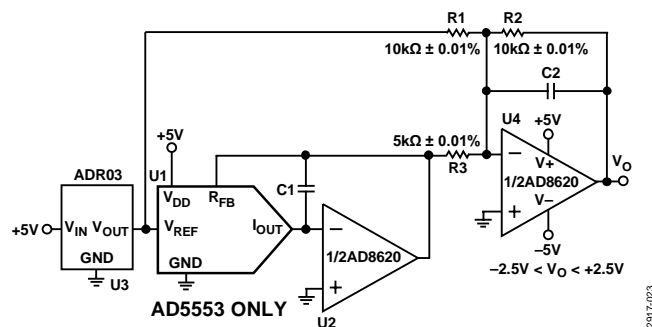

Figure 22. 4-Quadrant Multiplying Application Circuit
In some applications, it may be necessary to generate the full 4-quadrant multiplying capability or a bipolar output swing, which is easily accomplished by using an additional $U4$ external amplifier configured as a summing amplifier (see Figure 22). In this circuit, the second amplifier, $U4$, provides a gain of 2 that increases the output span magnitude to 5 V. Biasing the external amplifier with a 2.5 V offset from the reference voltage results in a full 4-quadrant multiplying circuit. The transfer equation of this circuit shows that both negative and positive output voltages are created as the input data (D) is incremented from code zero ($V_{OUT} = -2.5$ V) to midscale ($V_{OUT} = 0$ V) to full-scale ($V_{OUT} = +2.5$ V).